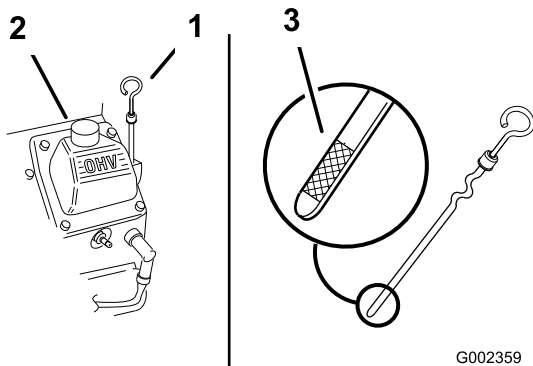

Figure 37
4. Clean around the oil dipstick (Figure 37) so that dirt cannot fall into the filler hole and damage the engine.
5. Unscrew the oil dipstick and wipe the end clean (Figure 37).
6. Slide the oil dipstick fully into the filler tube, but do not thread onto tube (Figure 37).
7. Slowly pour approximately 80% of the specified oil into the filler tube (Figure 37).